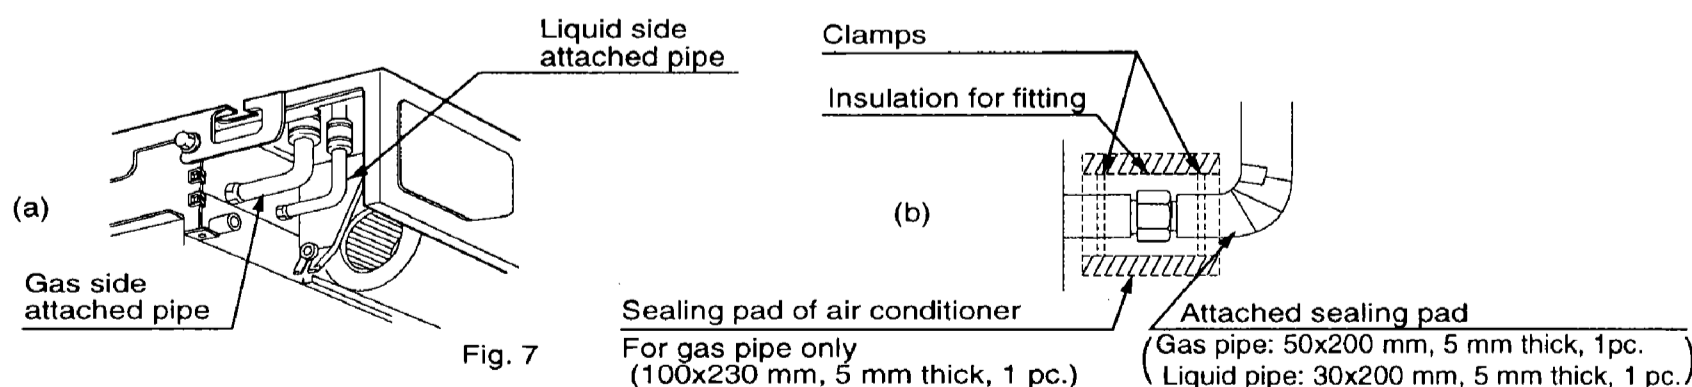

Fig. 7
- (1) Connect the liquid pipe and the gas side attached pipe to the air conditioner. (Fig. 7(a))
- (2) Wrap the attached insulation for fitting first and then the attached sealing pad. For the gas side attached pipe, wrap the sealing of the air conditioner around the insulation for fitting at the pipe connection. (Fig. 7(b))